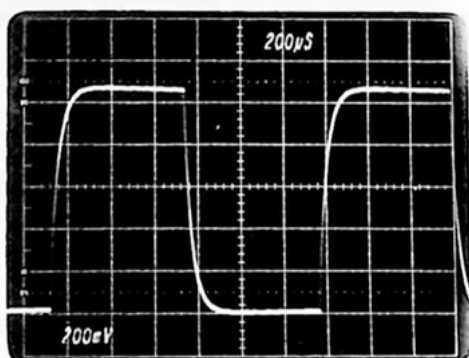

Figure 6-13
Step 22 — Execute the assembly language display program as before by entering the command, EXEC 8000 (or 4000). Observe the oscilloscope display. You should observe the square waveform pictured in Fig. 6-13.